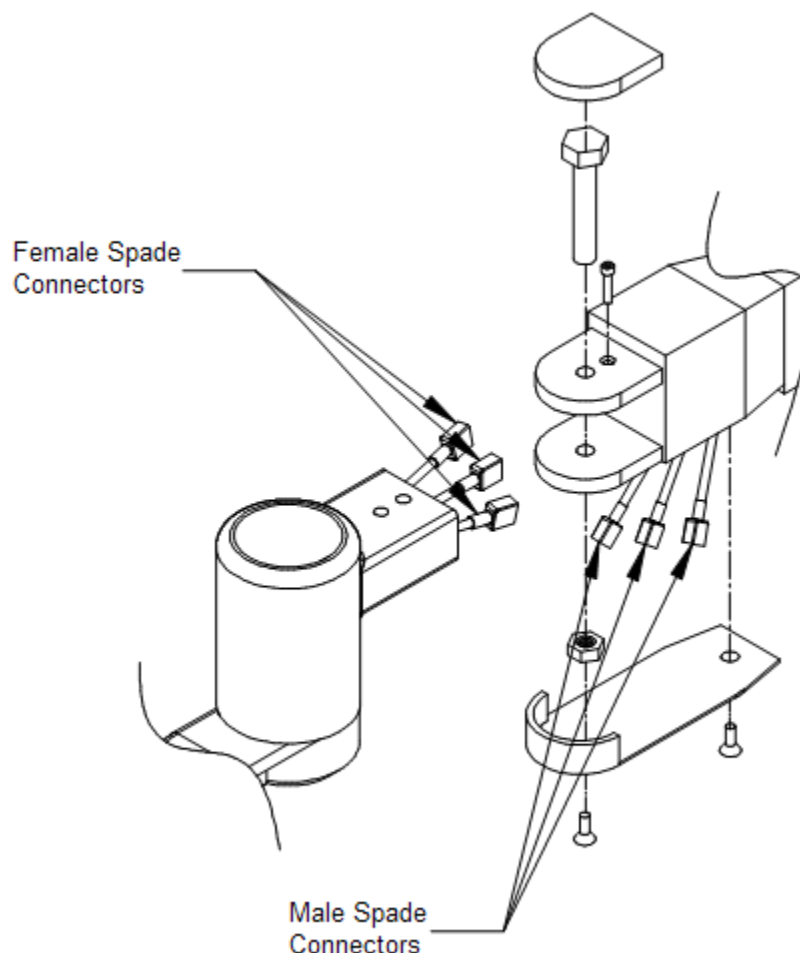

Figure 20. Light Head to Arm Electrical Connections
- One set of wires exits from the light head assembly, and the other set exits from the arm/wire junction assembly. Connect the wires with the spade connectors: black wire to black wire, red wire to red wire, and green wire to green wire. Replace the Connection Cover and securely tighten the two screws. See Figure 20. Light Head to Arm Electrical Connections.